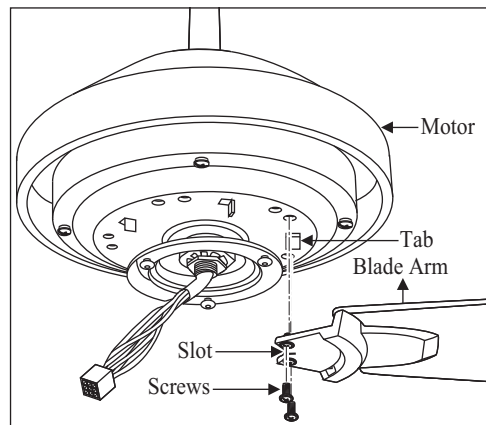

Figure 12
3. Fasten the blade assemblies to the motor housing by lining up the slots of the blade arms with the tabs on the motor housing, then tighten the two screws already installed in the blade arms. (Figure 12)